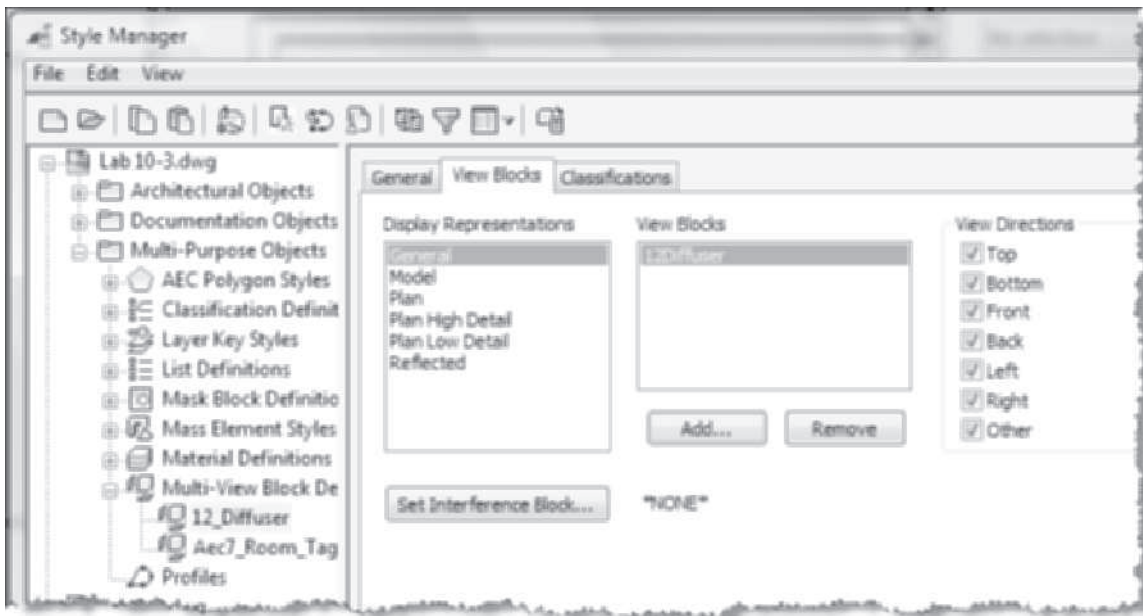

FIGURE 10.18 Selecting a block for the view block
7. Verify that **12_Diffuser [300_Diffuser]** is selected in the left pane. Verify that the **View Blocks** tab is current as shown in Figure 10.18, select the **General** display representation, and click the **Add** button to open the **Select a Block** dialog box. Select the **12Diffuser [300Diffuser]** block from the block list. Click **OK** to dismiss the Select a Block dialog box. Verify that all view directions are checked for the **General** display representation and **12Diffuser [300Diffuser]** view block as shown in Figure 10.18.